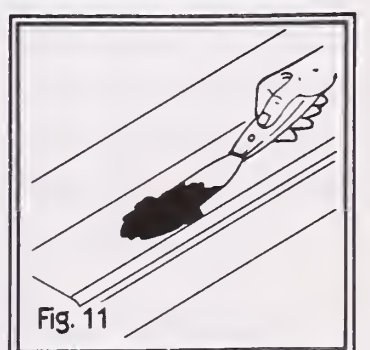

Fig. 11
2. Using the putty knife, apply asphalt roofing cement over the leak area and spread it with the knife (fig. 11).